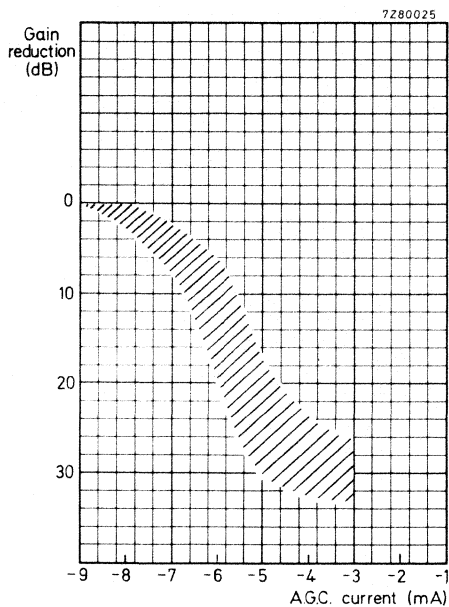

Fig. 5.
A.G.C. current (Fig. 5)
A.G.C. range (Fig. 5)